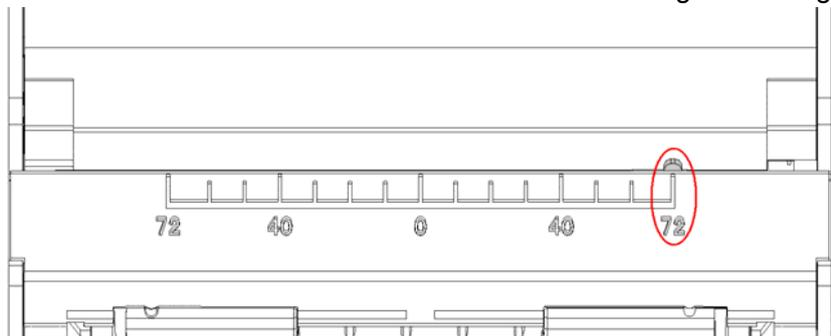

Figure 4.3-2 Adjusting mark sensor
- 2) The bulge that aligns with scale mark indicates the corresponding mark sensor position, as shown in the figure 4.3-2. Take out the cross screw driver when the sensor get to the right position;